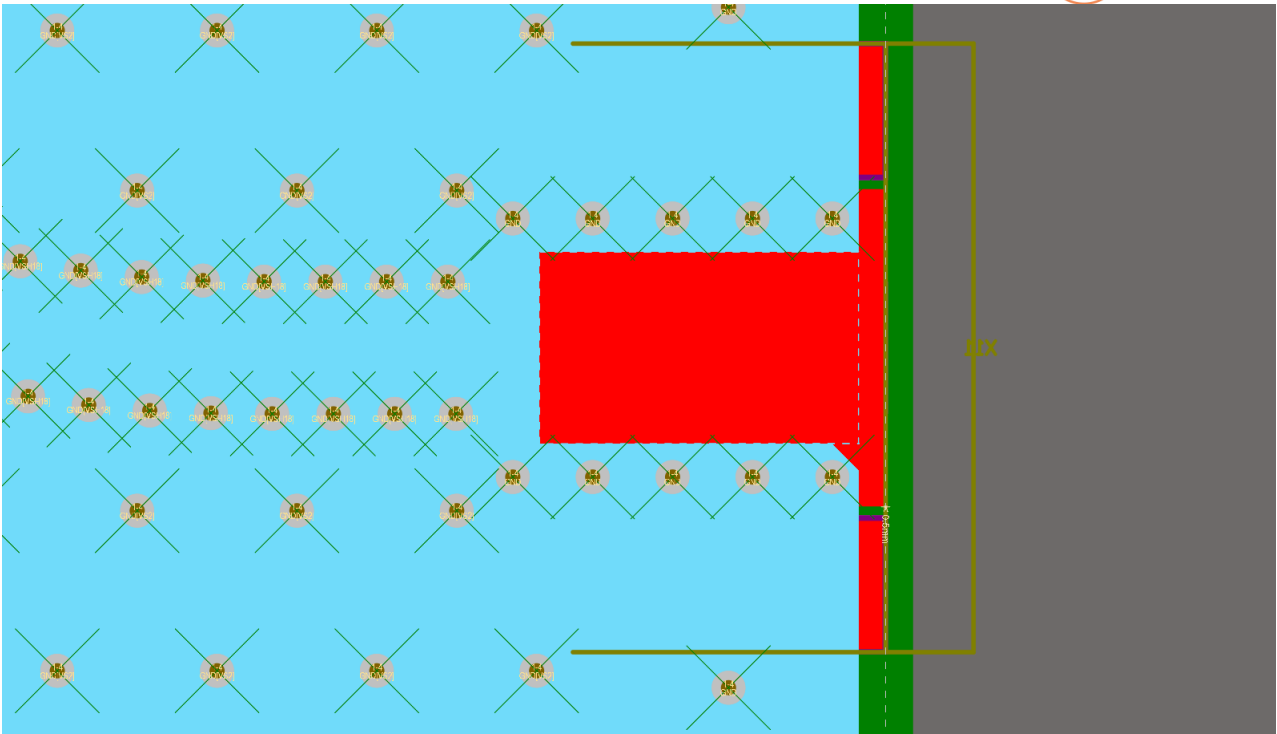

Figure 9 - Removing ground under the RF pad
- Remove the ground plane under the connector RF pad and use the next layer as ground plane for RF pad impedance design. The Figure 9 shows this solution. Use multiple vias around the connector to connect the transmission line ground to the connector ground.